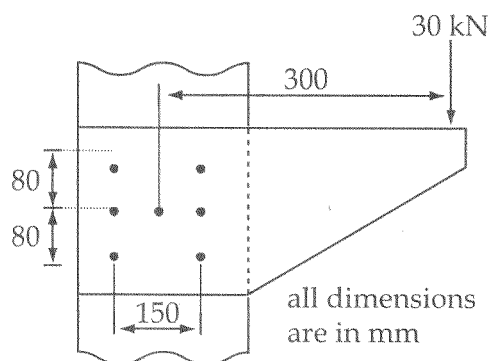

Figure 2
15. Determine the size of the rivet required for the arrangement shown in the Figure 2. 10